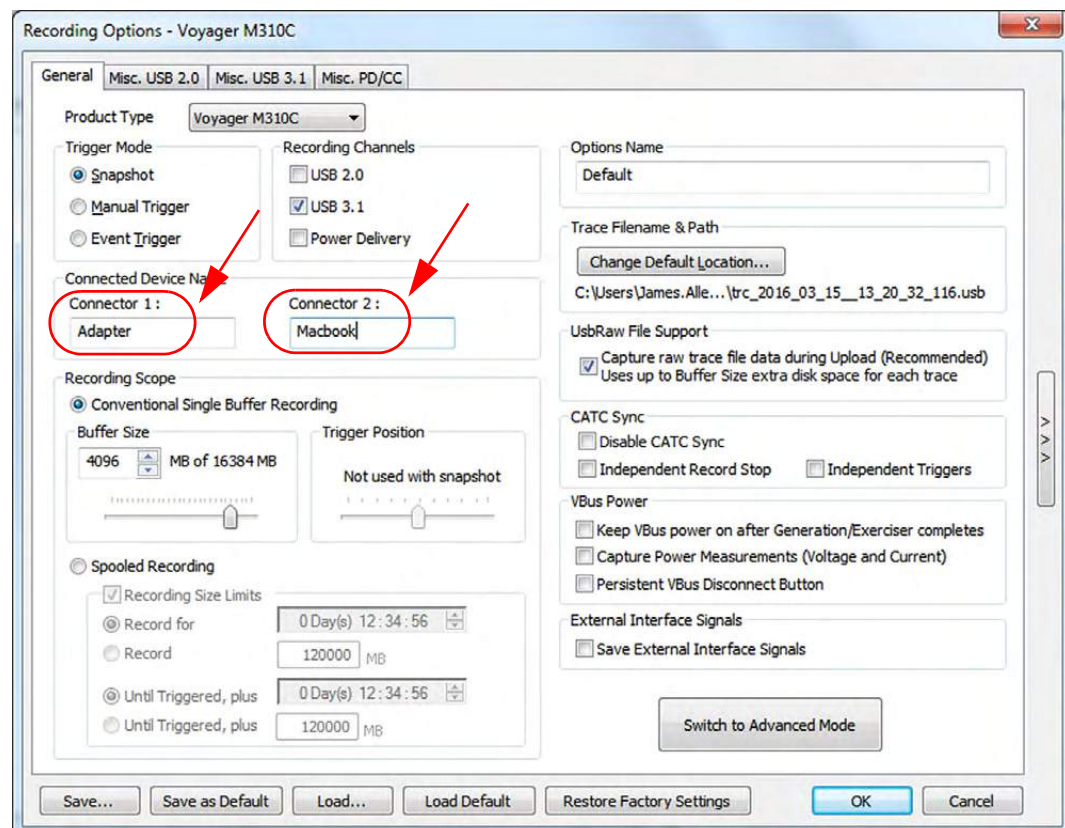
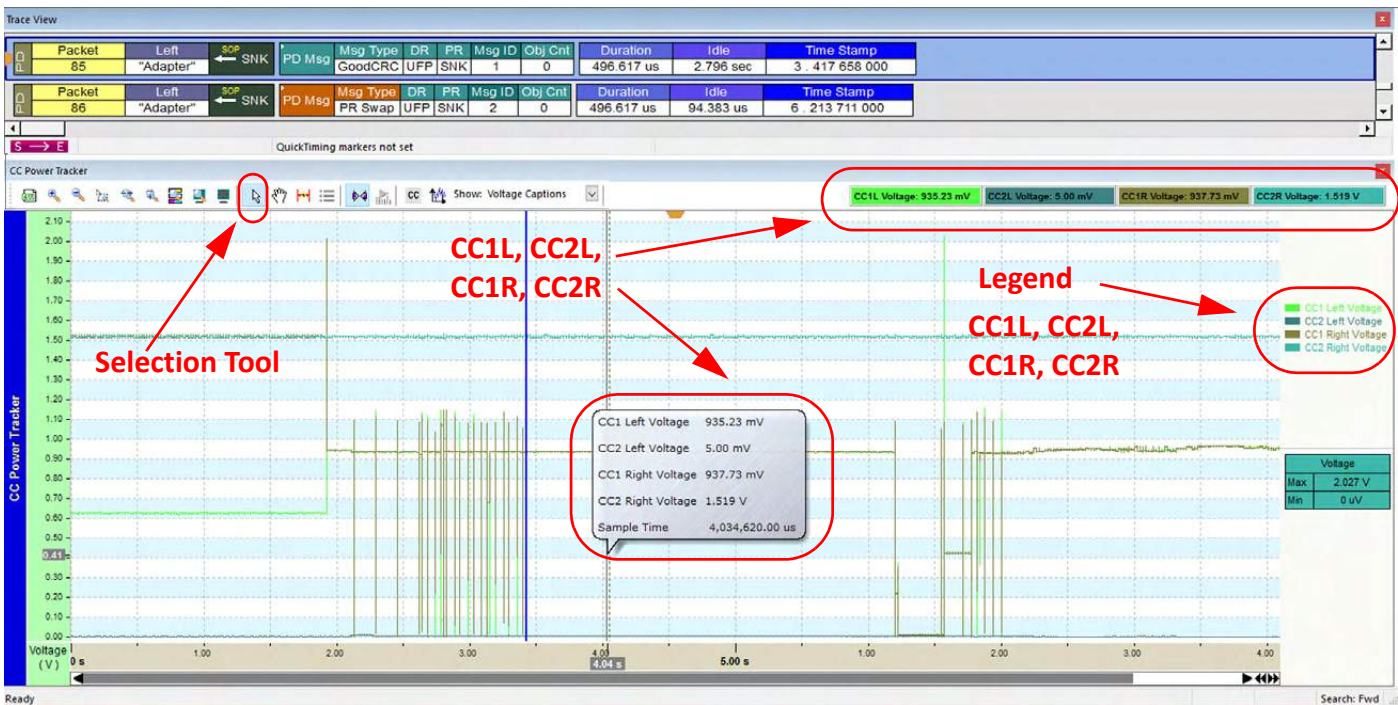

Figure 10.65: Voyager M310C: Recording Features for Left and Right Connectors
Figure 10.66: Configuration Channel (CC) Power Tracker Display: Packet 107
When setting Recording Options, the Left and Right Analyzer connectors can be labeled and those labels will show up in the trace file. See Figure 10.65 and Figure 10.66 on page 474.
Voyager M310C also provides the voltages of the Configuration Channel (CC) pins in a separate window (CC Power Tracker View). Left “Adapter” is for Connector 1 (CC1L, CC2L) and Right “MacBook” is for Connector 2 (CC1R, CC2R). See Figure 10.66.